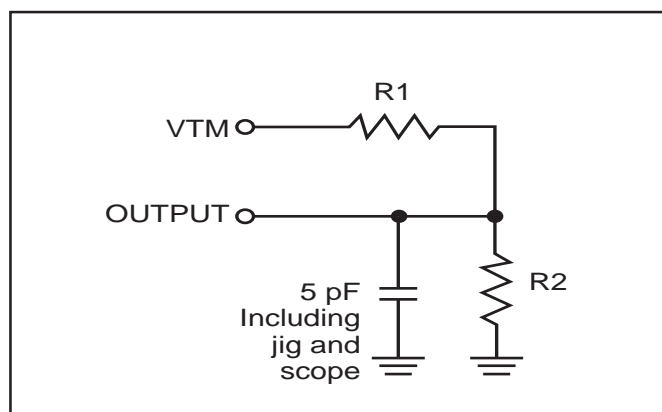

Figure 2
- Tested with the load in Figure 2. Transition is measured ±500 mV from steady-state voltage. Not 100% tested.
3. Tested with the load in Figure 2. Transition is measured ±500 mV from steady-state voltage. Not 100% tested.